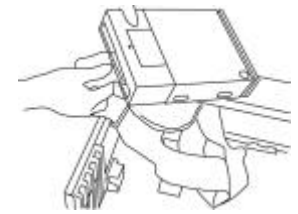

Figure 9
- 4.2) Before slide in the CD-ROM bracket, connect the cable and **routing the cables with cable tie**. (See Figure 9,10,11)